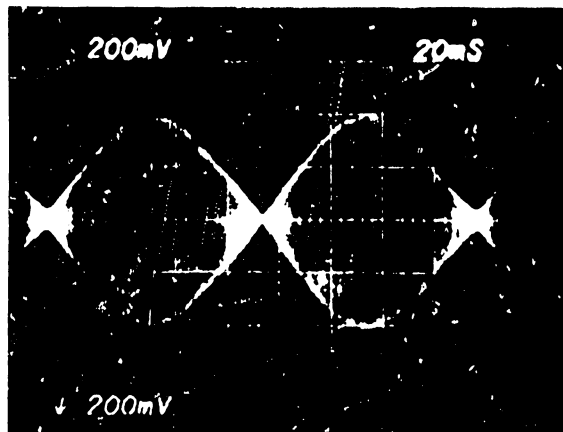

Figure 6 Head Radial Alignment
- c. Depress SF Key '3 (this accesses track 38). Refer to Figure 6.